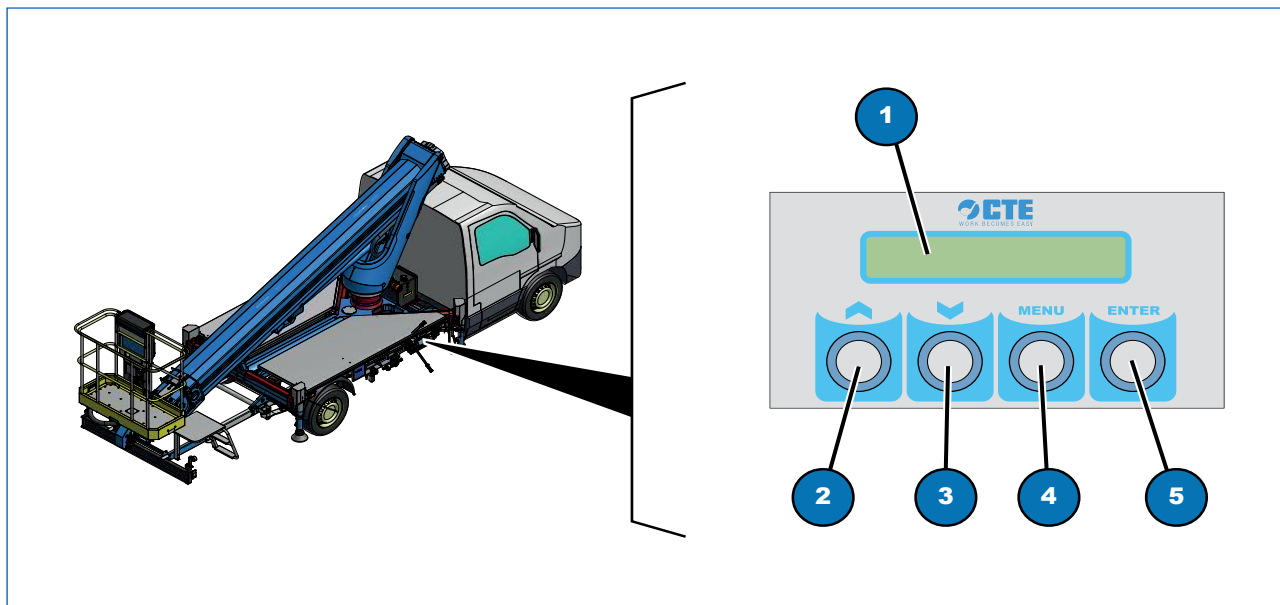

Fig. 6.7
- press the MENU button (Fig. 6.7 - 4) for about 3 seconds;
- use the UP (Fig. 6.7 - 2) and DOWN (Fig. 6.7 - 3) buttons to scroll through the pages of the menu:
- press the ENTER button (Fig. 6.7 - 5) on the required page to access the corresponding sub-pages;
- use the UP buttons (Fig. 6.7 - 2) and DOWN (Fig. 6.7 - 3) to browse the sub-pages;